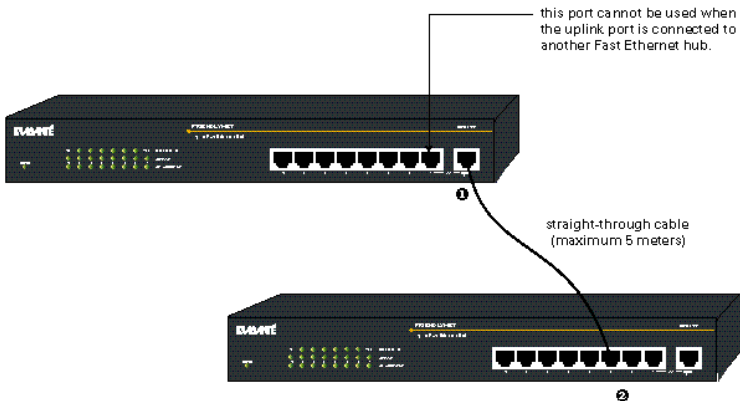

Figure 2-3 Connecting two FriendlyNet Ethernet Hubs
- 2 Connect the other end of the cable to any available port on the other hub. See Figure 2-3.